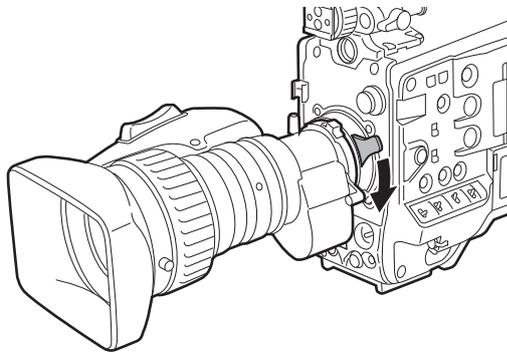

Fig. 3
- 3** Lower the lens lever to firmly clamp the lens. (Fig. 3)